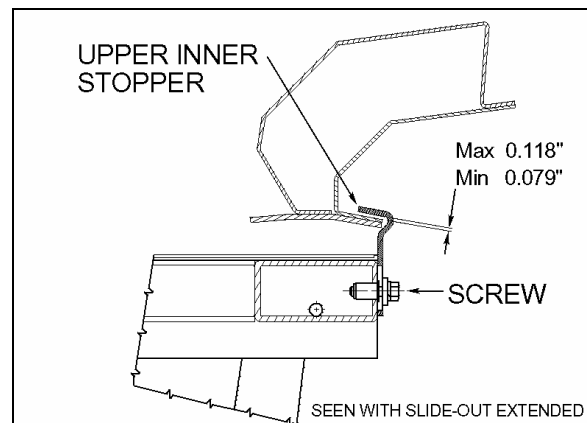

FIGURE 4 : UPPER INNER STOPPERS ADJUSTMENT
2. Adjust the upper inner stoppers according to FIGURE 4 with the seal deflated. When inflating, the seal presses the roof structure upward and at that moment, the upper inner